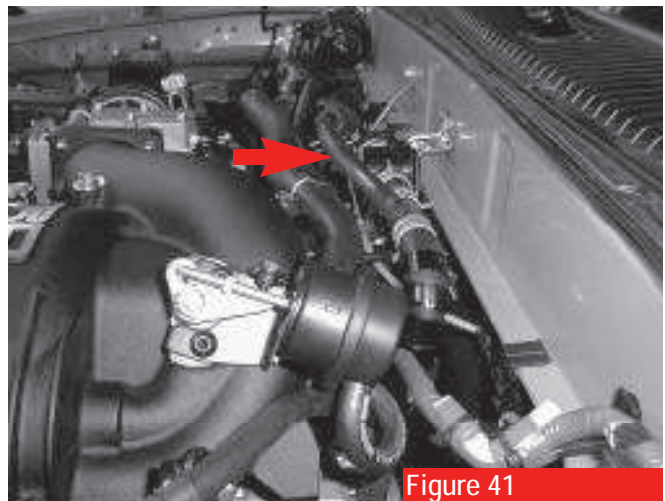

Figure 41
5. Rotate the stock heater hose assembly (see arrow, figure 41) located on the firewall and rotate approximately 30 degrees upward. This will provide proper clearance away from re-routed valve cover breather hose.